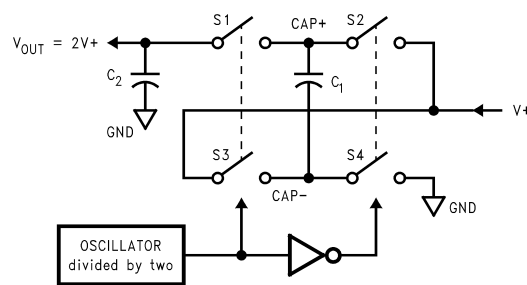

Figure 9. Voltage Doubling Principle
The LM2765 contains four large CMOS switches which are switched in a sequence to double the input supply voltage. Energy transfer and storage are provided by external capacitors. Figure 9 shows the voltage conversion scheme. When S_2 and S_4 are closed, C_1 charges to the supply voltage V_+ . During this time interval, switches S_1 and S_3 are open. In the next time interval, S_2 and S_4 are open; at the same time, S_1 and S_3 are closed, the sum of the input voltage V_+ and the voltage across C_1 gives the $2 V_+$ output voltage when there is no load. The output voltage drop when a load is added is determined by the parasitic resistance ($R_{ds(on)}$ of the MOSFET switches and the ESR of the capacitors) and the charge transfer loss between capacitors. See Application and Implementation for more details.
- R_{SW} is the sum of the ON resistance of the internal MOSFET switches shown in Figure 9. R_{SW} is typically $8\ \Omega$ for the LM2765. (1)